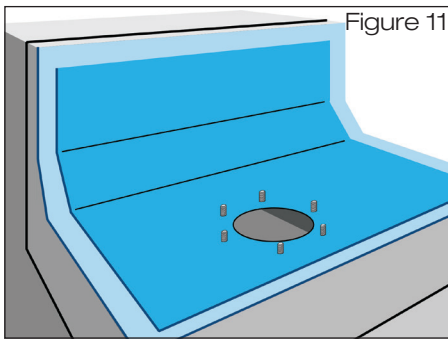

Figure 11
2.3 Cut the **connecting sheet** of the existing roof sealing sheet, with a size of 700 mm x 1000 mm length on site (Fig. 11). Use a hole punch to make 14 mm diameter holes in the connecting sheet for the threaded bolts to pass through. The loose flange can be used as a template. Join the connecting sheet by welding to the first layer of the roof sealing sheet that has already been laid.